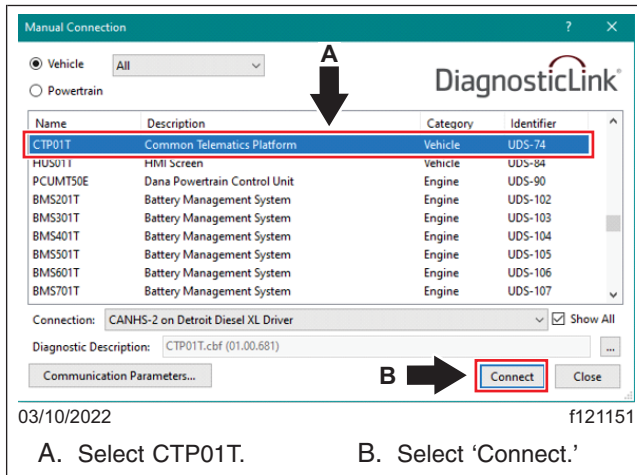
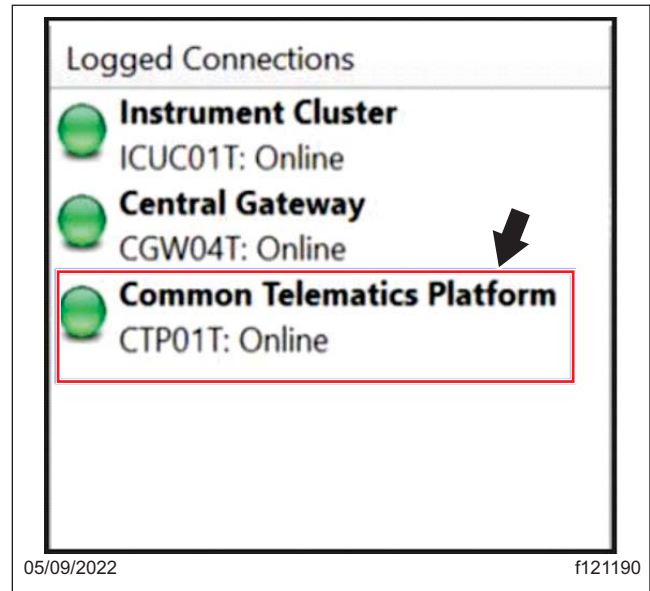

Fig. 6, Manual Connection Window
Fig. 7, CTP01T Connected
9. In the 'Manual Connection' window that appears, select 'CTP01T,' then select the 'Connect' button. See Fig. 6. Wait until the CTP01T connection turns green, as shown in Fig. 7.